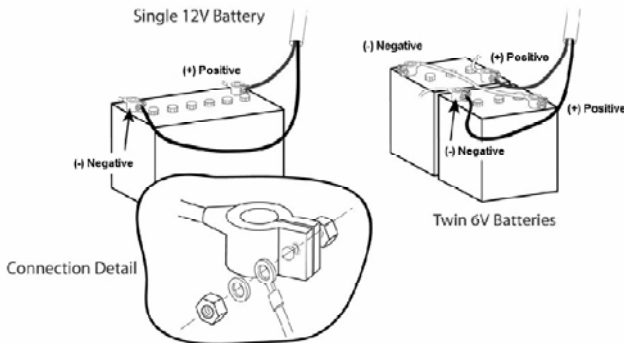

Figure 5-12. Battery Configuration
1. Connect the Power/Comms Harness directly to 12 VDC battery terminals (Figure 5-12)
2. Attach the red wire to the positive (+) battery terminal (Figure 5-12)
3. Attach the black wire to the negative (-) battery terminal (Figure 5-12)